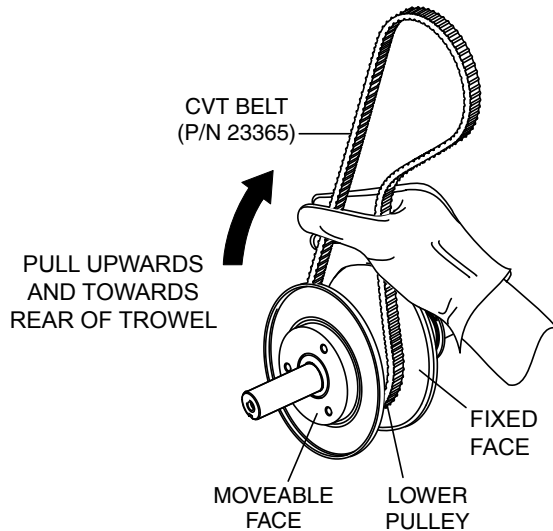

Figure 19. Holding Lower Pulley Open
- With the CVT belt placed over the lower pulley, squeeze the belt (Figure 19) and pull the belt upwards and towards the rear of the trowel. This will spread open the faces of the lower drive pulley.